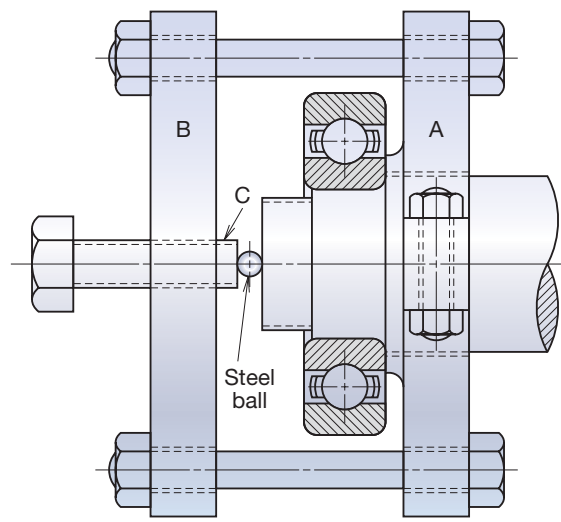

Fig. 44 Tool for Withdrawing an Inner Ring
The tool shown in Fig. 44 is also effective for withdrawing an inner ring. Back plate A, consisting of an upper board and a lower board, is fastened with bolts. Inserting a steel ball (thrust ball bearing for a large-size bearing) between front plate B and bolt C increases reliability. Appropriate bolt holes should be drilled in A and B according to the size of the individual bearing. The force required for pulling out the inner ring can be obtained using the aforementioned equation (5) and Tables 3 and 4. The back cover of the housing may be used instead of back plate A, depending on specific conditions. Large-size roller bearings with large interference can be dismantled more easily without damaging the inner ring, in accordance with the previously described mounting/dismounting method by induction heating. When this device is not available, the inner ring may be expanded by heating the circumference with a burner or similar equipment. This method is intended to prevent damage to the shaft without regard for the possible reuse of the bearing.